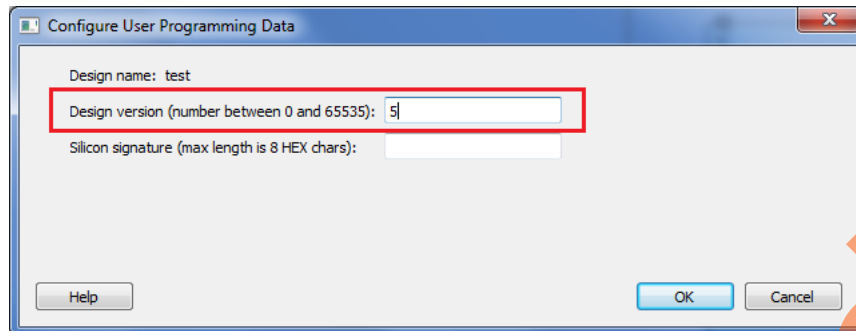

Figure 4 • Update Policy
2. Enter **Design Version** in the **Configure User Program Data** window as shown in Figure 4.